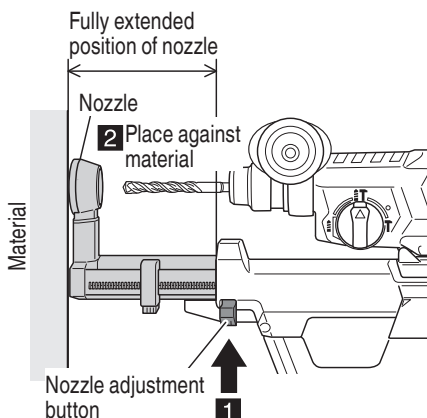

Fig. 11
- (1) Press the nozzle position adjustment button and ensure that the nozzle is in the fully extended position. (Fig. 11)
- (2) While holding the tool in a way so that the switch does not get pressed, place the nozzle against the material to be drilled. (Fig. 11)